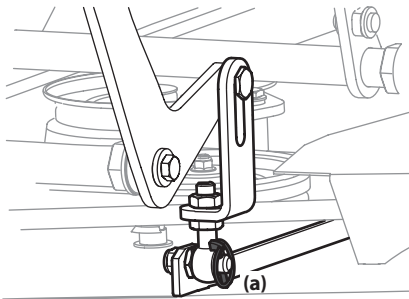

Figure 4-16
2. Reinstall the tires using the four lug nuts. See Figure 4-16. Torque the lug nuts (a) to 65-70 ft-lbs.
- Remove the four lynch pins (a) that secure the deck to the deck lift assembly. See Figure 4-16.